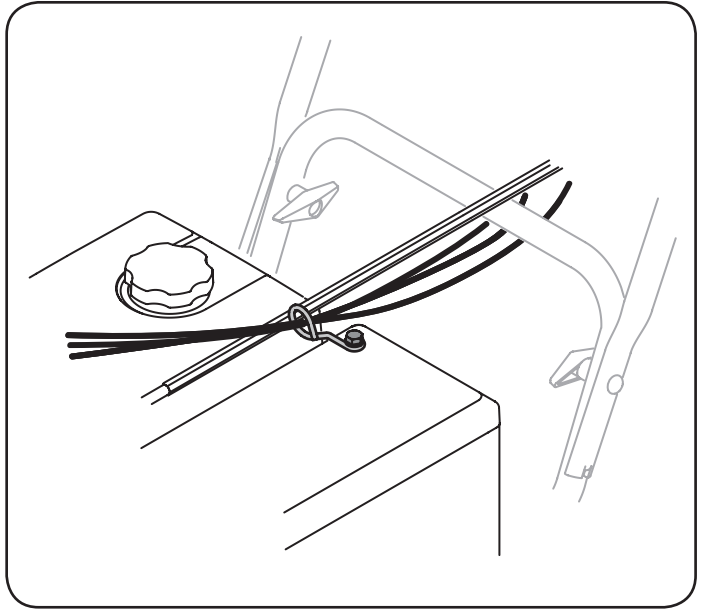

Figure 9
8. Check that the cables are properly routed through the cable guide on top of the engine. See Figure 9.